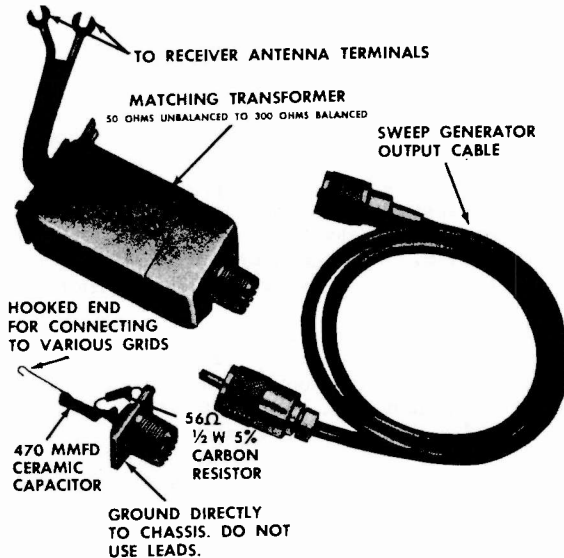
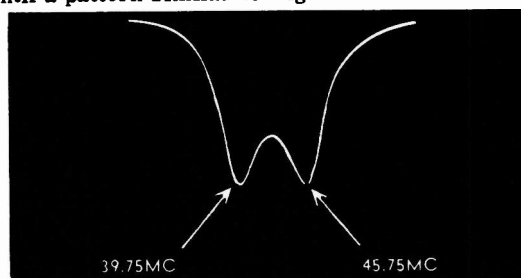

Fig. 3 IF-RF Alignment Fixtures
Fig. 8 4th IF Response
4. Connect the sweep generator through a terminating network similar to that shown in Fig. 3 to the grid (pin 1) of the third IF amplifier.
3. Feed the output from the sweep generator through the special termination unit shown in Fig. 3 to point "D" (pin 1 of 6CB6, 3rd IF). Adjust the generator until a pattern similar to Fig. 8 is obtained.
4. Set the Marker Generator to 45.75 Mc and alternately adjust the top and bottom cores of the 4th IF transformer for maximum gain and symmetry with the 45.75 Mc markers positioned as shown in Fig. 8. The 39.75 Mc marker can fall within ± 0.5 Mc of the specified frequency. If the correct response curve cannot be obtained in this step, check the position of the two cores to see that they are entering their respective windings from the opposite ends of the coil form.